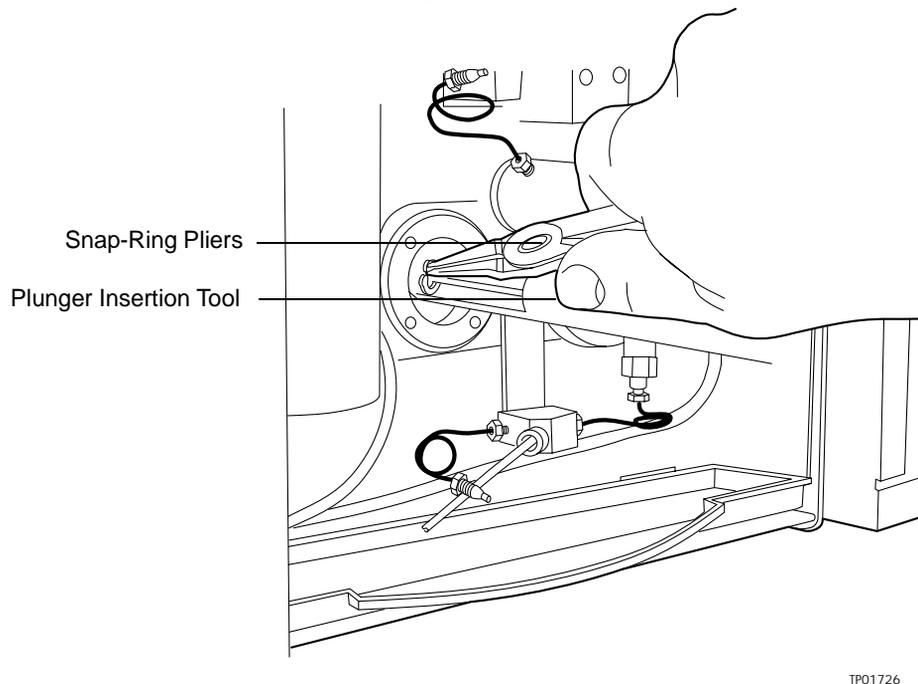

Figure 4-6 Inserting the Plunger
2. Use the plunger insertion tool and snap-ring pliers to insert the plunger assembly into the pump (see Figure 4-6).